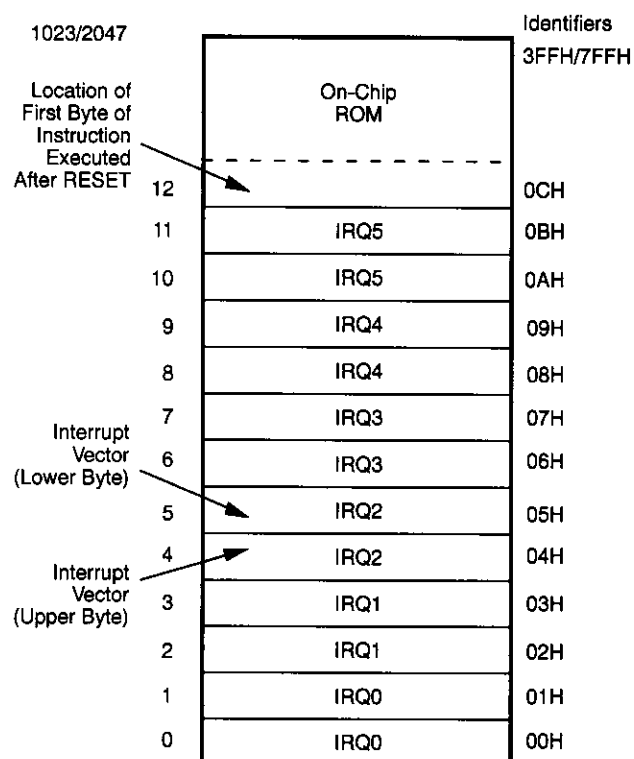

Figure 11. Program Memory Map
**Program Memory.** The Z86E04/E08 addresses up to 1K/2KB of Internal Program Memory (Figure 11). The first 12 bytes of program memory are reserved for the interrupt vectors. These locations contain six 16-bit vectors that correspond to the six available interrupts. Bytes 0–1024/2048 are on-chip one-time programmable ROM.